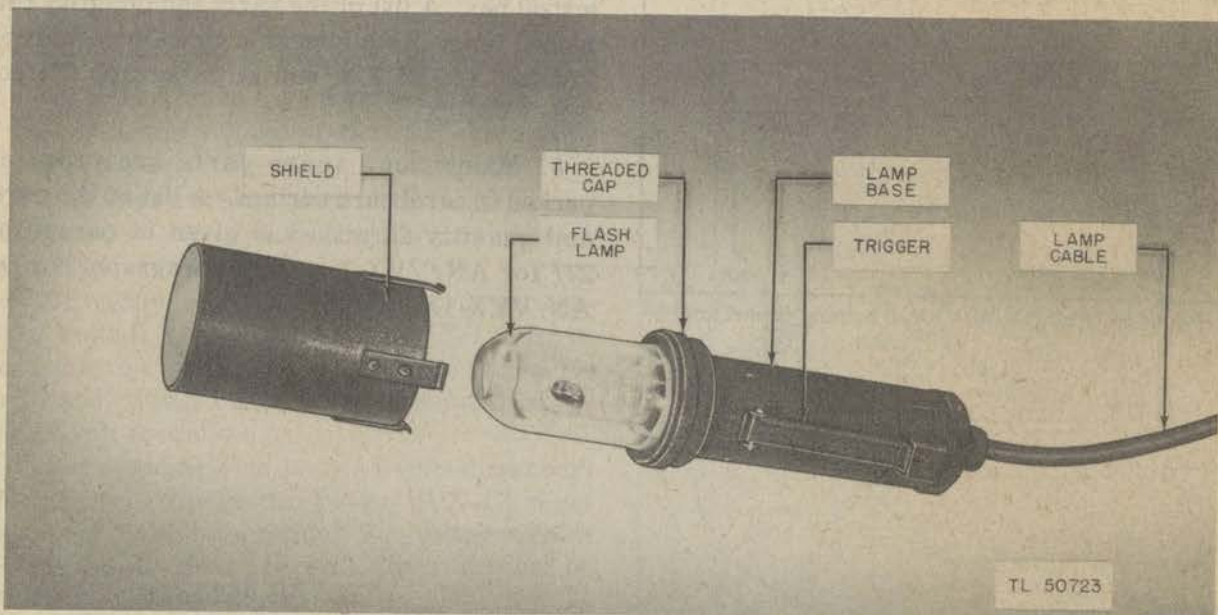
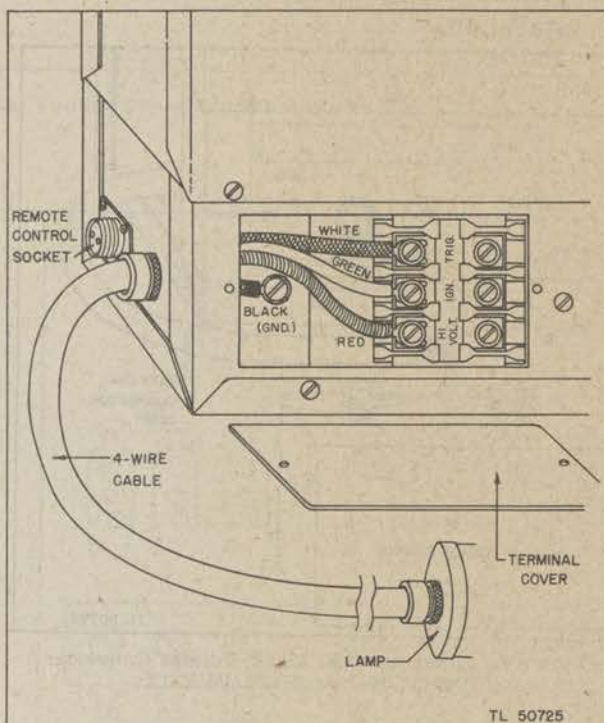

Figure 4. Identification Lamp VS-1/VVX-1.
Figure 6. Lamp terminal block, Voltage Converter PP-49/VVX-1 or PP-50/VVX-1X.
Identification Lamp VS-1/VVX-1 consists of a gaseous-discharge flash lamp and an ignition coil, both mounted in a tubular metal case (fig. 4). The flash lamp has a clear glass lens and fits into a plug-in type socket, where it is held in place by a threaded cap. A trigger switch is mounted on the base of the identification lamp (fig. 4). A shield is provided to limit the lamp signal to one direction. Identification Lamp VS-1/VVX-1 is equipped with a 4-wire cable coded as follows: black for ground connection, green for ignition connection, red for high-voltage connection, and white for trigger connection (figs. 6 and 16).
g. Connect the lamp cable to the terminal block (fig. 6) as follows:
(1) Connect the black wire to the ground terminal (marked GND on the grounding-terminal bracket).
(2) Connect the white wire to the trigger terminal (marked TRIG on the terminal block).
(3) Connect the green wire to the ignition terminal (marked IGN on the terminal block).
(4) Connect the red wire to the high-voltage terminal (marked HI-VOLT on the terminal block).